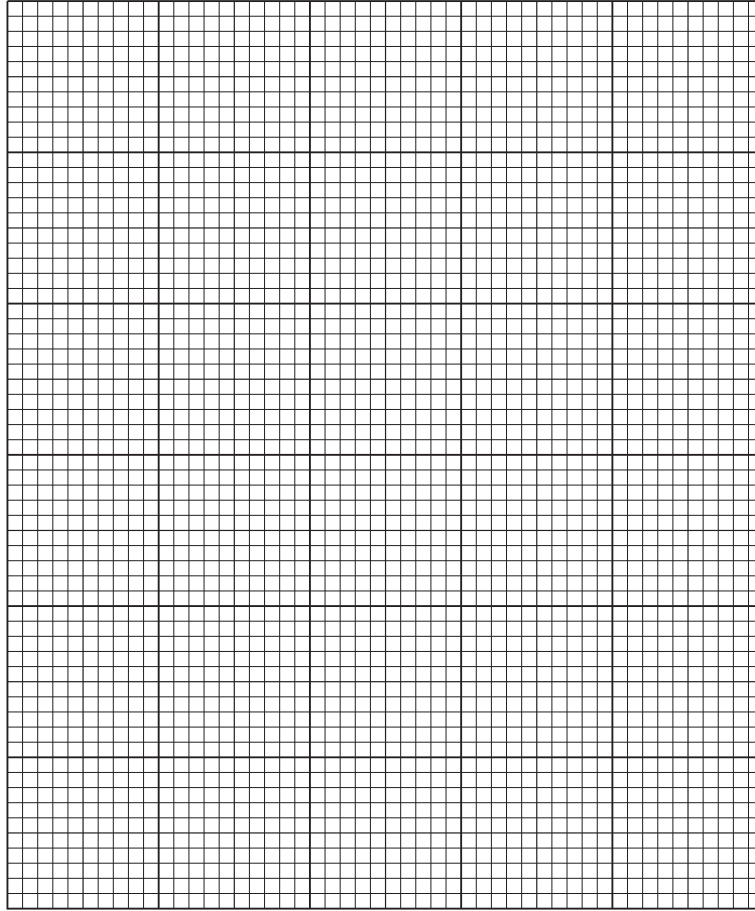

Fig. 1.4
- (i) Plot a graph of the data shown in Table 1.2 on the grid in Fig. 1.4.
- (ii) Use your graph in Fig. 1.4 to suggest how glucose is transported into bacterial cells.